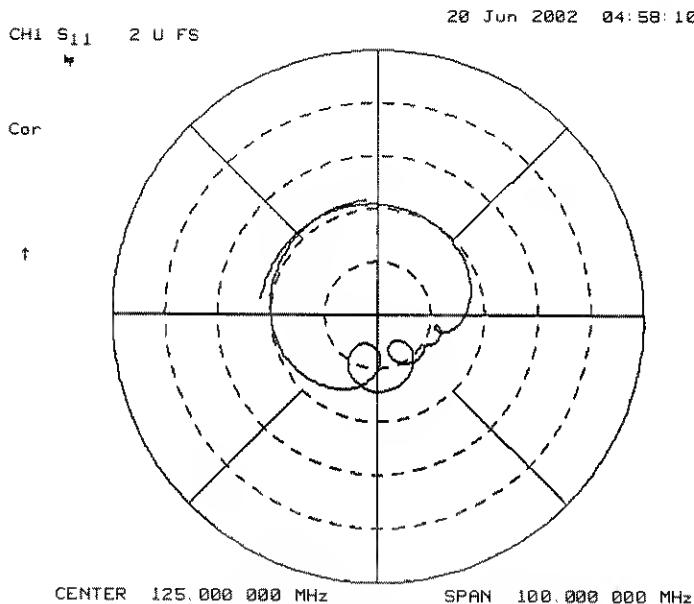

Figure 2-14.
2. Press **SCALE REF AUTO SCALE** to reposition the trace, as shown in Figure 2-14.
The analyzer shows the results of an S_{11} measurement with each point on the polar trace corresponding to a particular value of both magnitude and phase. The center of the circle represents a coefficient (Γ) of 0, (that is, a perfect match or no reflected signal). The outermost circumference of the scale shown in Figure 2-14 represents $\rho = 2.00$, or 200% reflection. The phase angle is read directly from this display. The 3 O'clock position corresponds to zero phase angle, (that is, the reflected signal is at the same phase as the incident signal). Phase differences of 90°, 180°, and -90° correspond to the 12 O'clock, 9 O'clock, and 6 O'clock positions on the polar display, respectively.
4. Turn the front panel knob to position the marker at any desired point on the trace, then read the frequency, linear magnitude and phase in the upper right hand corner of the display, as shown in Figure 2-14.